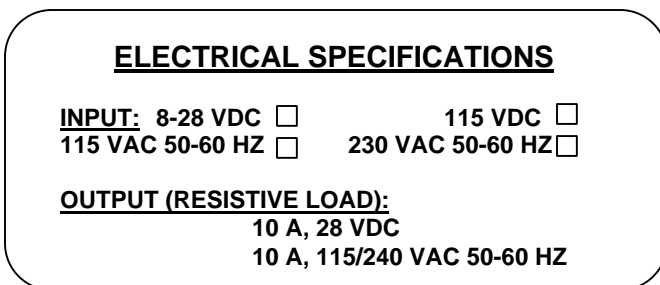

FIG. 1: ELECTRICAL SPECIFICATION PLATE
Make the cutouts as indicated in (Fig. 1). Insert the (4) panel mounting studs, finger tight, into the metal inserts located in the rear of the bezel.
Before installation carefully check the "Electrical Specifications" plate (See Fig. 1) on each instrument against the receiving paperwork and the intended application for the correct input and output. Make certain that the enclosure (NEMA 4 or NEMA 7) is appropriate for the area in which it is to be installed. Inspect for shipping damage and, if damaged, report it immediately. Verify when the unit is unpacked and in a vertical position that the pointer is on 0.
2. L.E.D.'S DO NOT COME ON WHEN POWER IS TURNED ON. Check wiring diagram (Fig. 1) and wiring to make certain that all connections are properly and securely made. Also check to make certain that the proper power input is being provided.